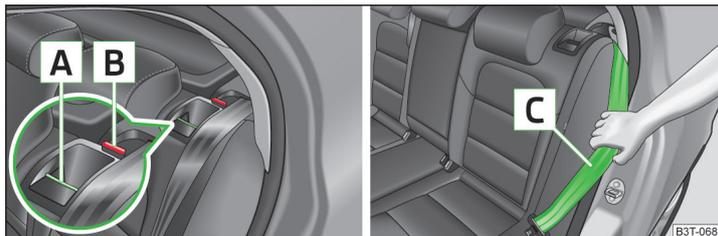

Fig. 77 Pull seat back / seat belt to the side panel to unlock
- Press the release knob **A** » Fig. 77.
- Push the release handles **A** » Fig. 77 on both sides of the seat backrest at the same time.
- Hold the rear outer seat belt **C** » Fig. 77 against the side trim panel.
- Hold the rear outer seat belts **C** » Fig. 77 against the side trim panel.